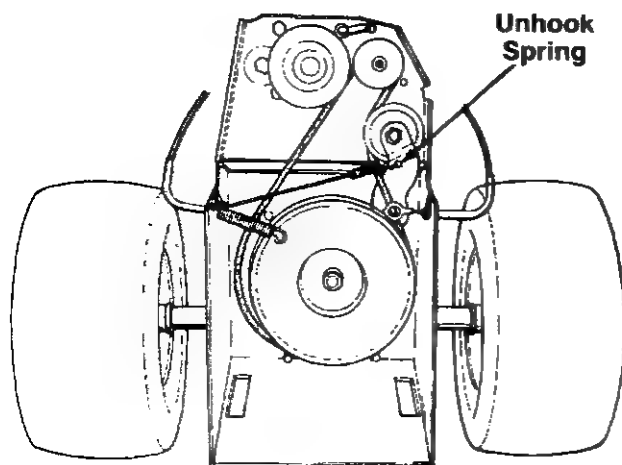

FIGURE 26.
3. Unhook the spring from the idler bracket. See figure 26.